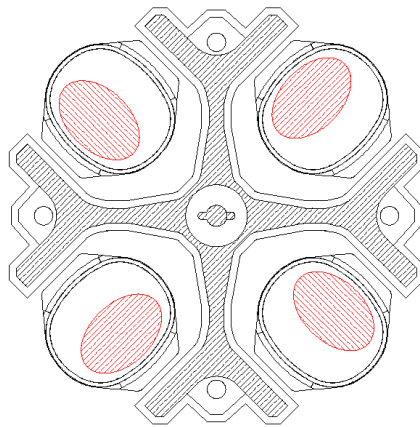

Figure 14
- After this procedure is applied, the samples are placed on the carrier mutually symmetrically. (See Figure 14).